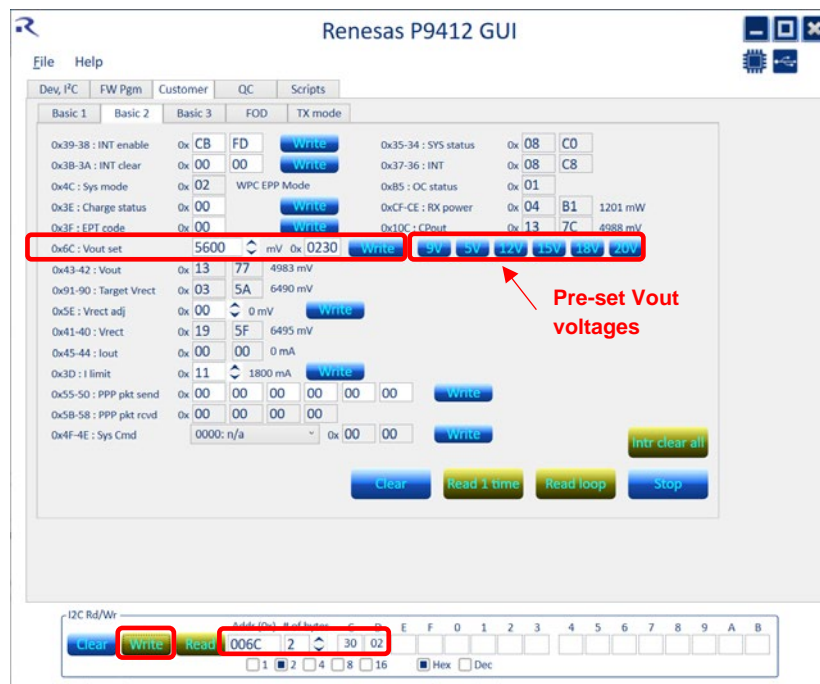

Figure 14. VOUT Adjustments Can be made in Three Ways
4. Reciprocally, register 0x6C (valid for FW37 and above) is used to set the value of VOUT, as shown in Figure 14. Any register can be read (or written assuming it is a writeable register) from the I2C reg Rd/Wr tool at any time. Address is the starting address and the number of bytes should be specified prior to clicking “Read” for read, or “Write” for write operations.